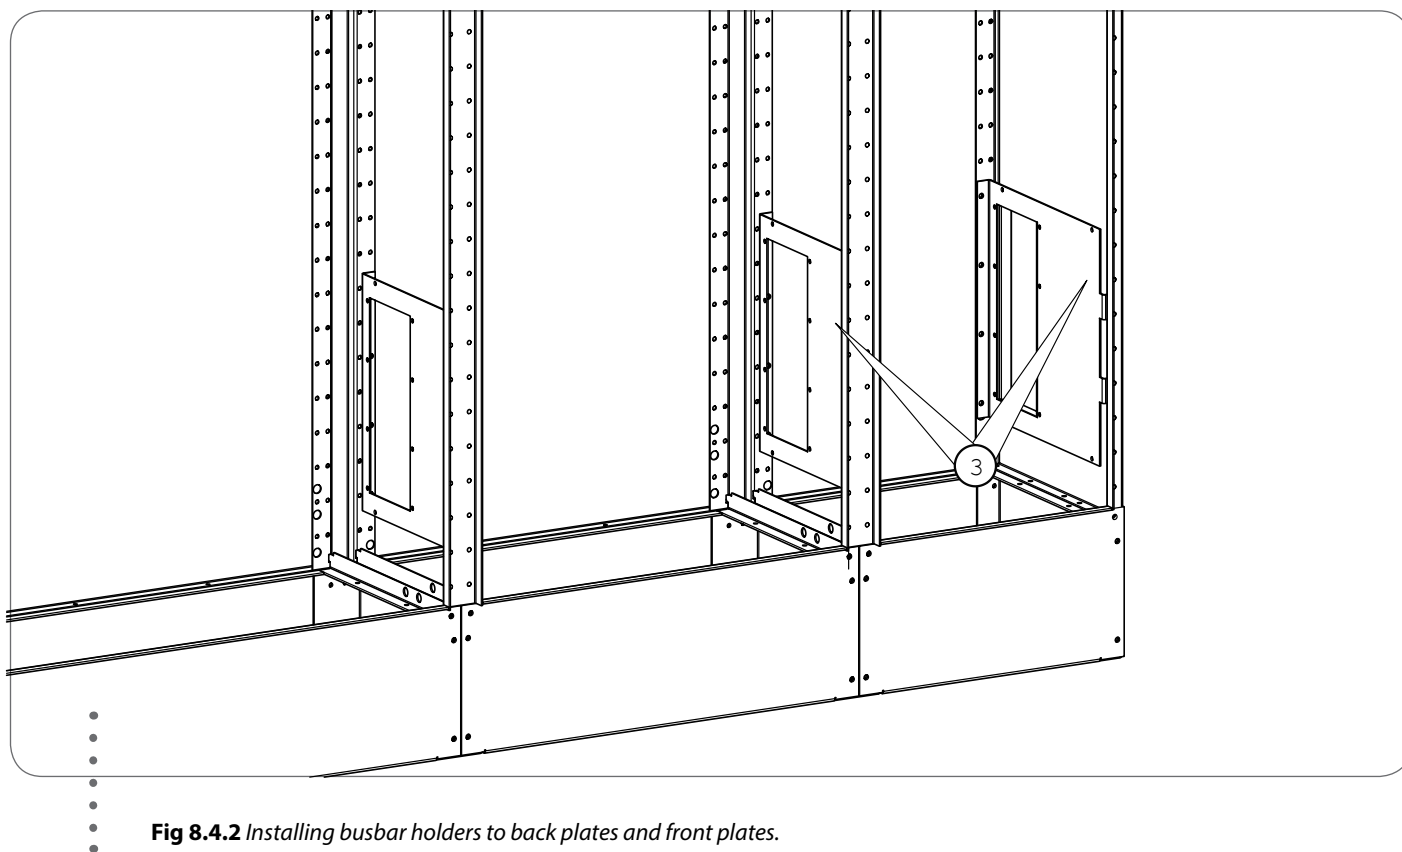

Fig 8.4.2 *Installing busbar holders to back plates and front plates.*
The busbar insulator holders (1) are used for installing busbars in the cell centre. The busbar insulator holders are fastened to the side plates/front profiles using assembly screws as shown in Fig. 8.4.2.